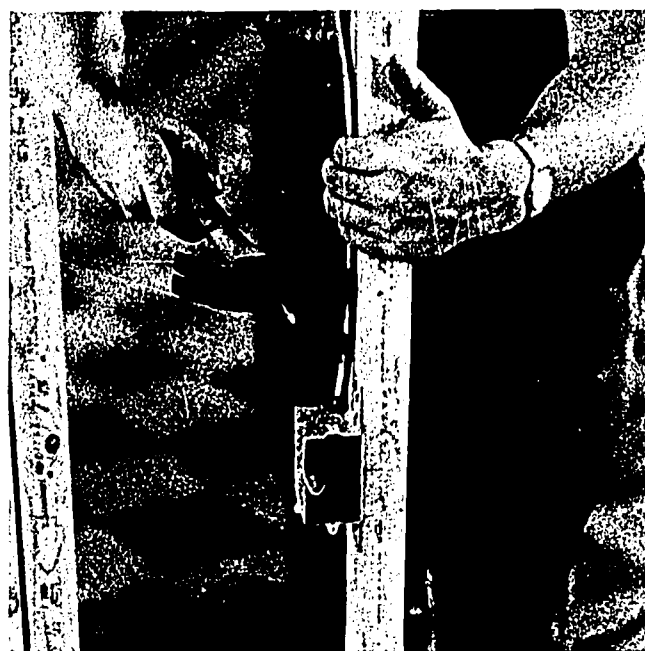

Fig. 53-17. Securing Romex Cable to Studding
6. Staple the Romex to the stud within 8" of the switch box. This is a requirement of the electrical code. See Fig. 53-17.